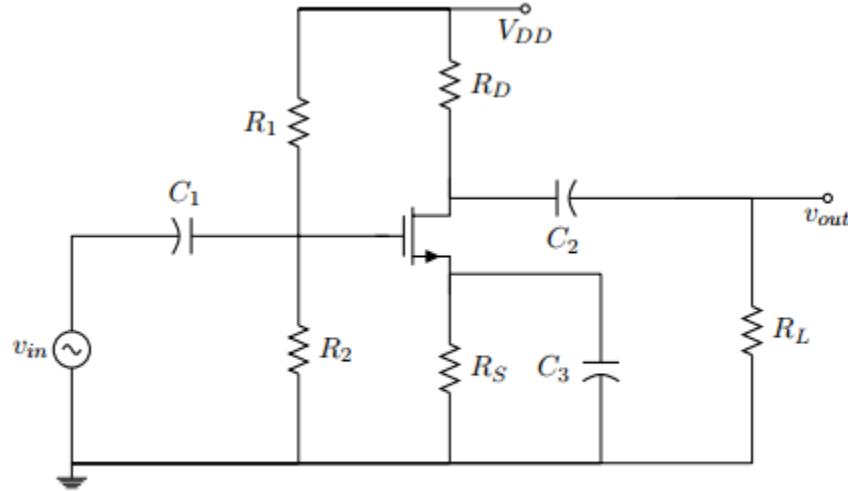

Figure 1: Common-source amplifier
The common source is the most commonly used MOSFET amplifier. The name “common source” comes from the fact that when the source terminal is grounded, it becomes a common terminal for both drain and source terminals. To cancel the nonlinear relationship of  $v_{GS}$  versus  $i_D$  biasing techniques are used. In this experiment voltage-divider bias technique will be implemented. In voltage divider bias (see Figure 1),  $V_G$  and  $V_{GS}$  can be found using Equation 1.
1. Construct the network of Figure 1 using Multisim and circuit breadboard. Use the following resistances and capacitances ( $V_{DD}=15V$ ):
1. Apply 10mV peak sinusoidal signal ( $V_{in}$ ) at 1kHz to the circuit of Figure 1.